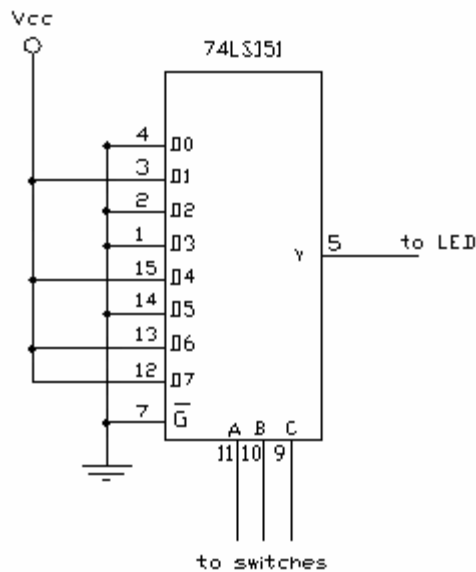

Figure 2
4. Analysis of 74151: Build the circuit of Figure 2.